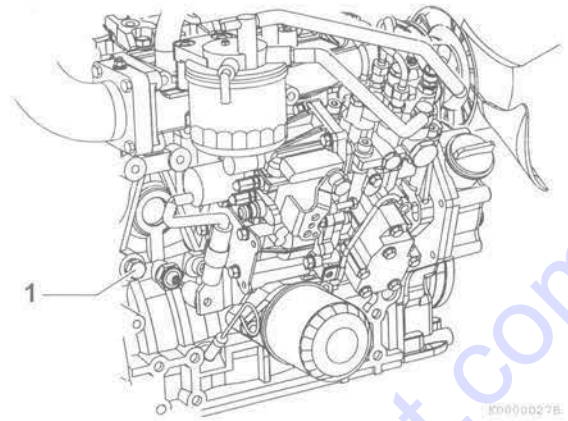

Figure 23
- On models not equipped with an oil cooler, remove the coolant drain plug (1, **Figure 23**) from the engine block.